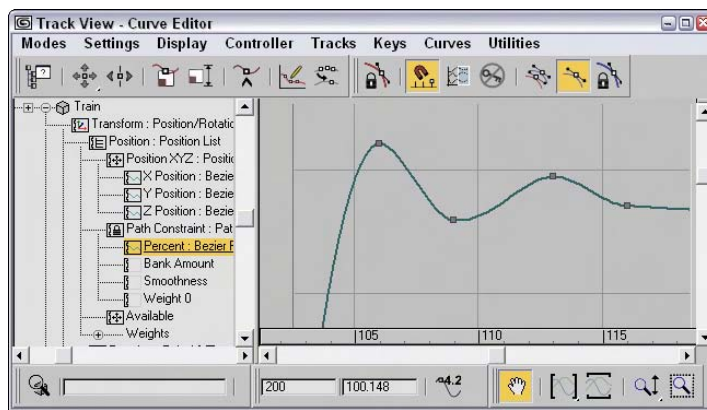

Figure 33-10: Using Zoom Values to see the stopping position keys
10. As you can see, a little movement goes a long way, so the keys need only to be offset a very small amount. Use the Zoom Values button from the Zoom flyout and the Pan button to help in making the small changes to the animation. Figure 33-10 shows the zoomed in view of this section of the curve.